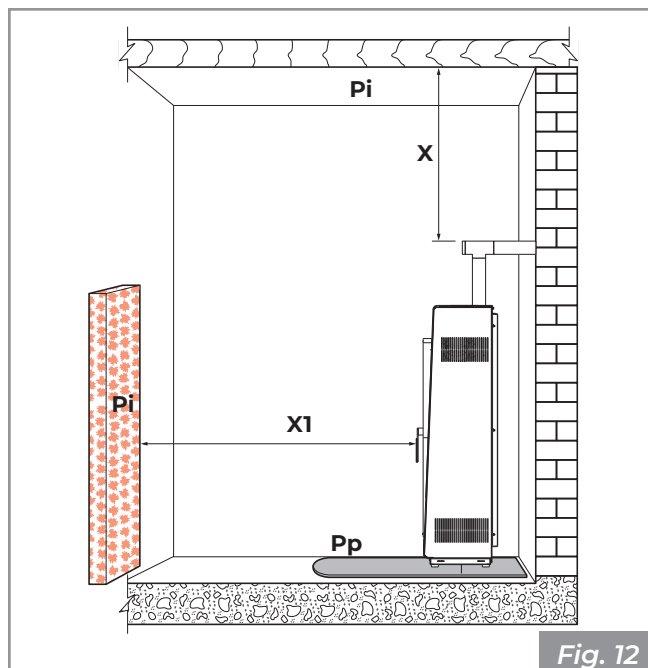

Fig. 12
Remember to respect the minimum distance from flammable materials (X), shown on the identification plate of the pipes used to create the chimney (Fig. 12).